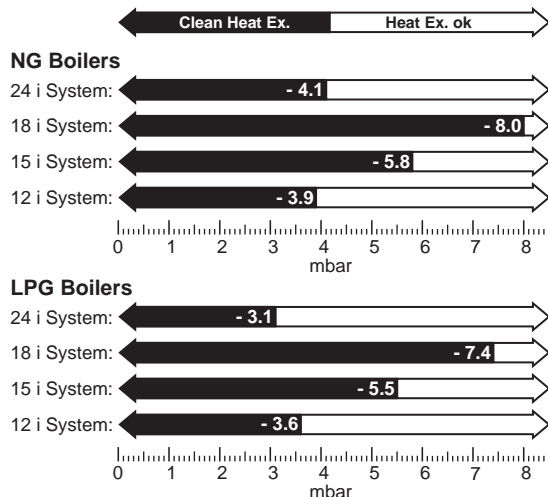

Fig. 72 Fan pressure readings
- ▶ The pressure will read negative, refer to the chart in figure 72.